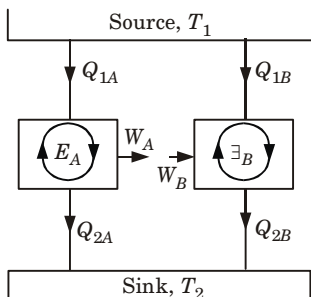

Fig. 2.14.2. E_A is reversed.
6. Now, let E_B be reversed. Since E_B is a reversible heat engine, the magnitude of heat and work transfer quantities will remain the same, but their directions will be reversed, as shown in Fig. 2.14.2.
2. Let both the heat engines E_A and E_B (Fig. 2.14.2) be reversible.